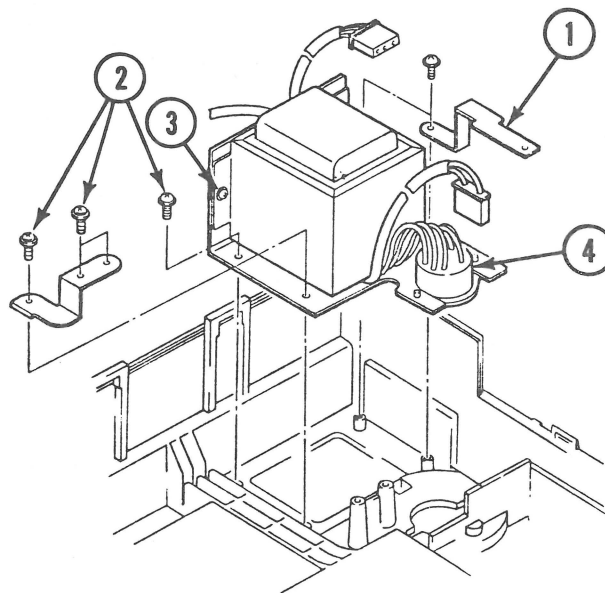

FIGURE 27
7. Remove the two screws that hold the ground bracket (Figure 27, #1) that connects the transformer base plate and the power supply.
8. Remove the four screws (Figure 27, #2) from the mounting plate that holds the transformer to the bottom case.
11. To remove the transformer from the base plate, unscrew the two mounting screws (Figure 27, #3) that hold the transformer to the mounting plate, and remove the transformer.
On universal transformers you must also remove the power selector switch (Figure 27, #4) by removing the two Phillips screws that hold it to the plate.
1. Secure the transformer to the mounting plate using the two screws (Figure 27, #3).
Note: On universal transformers, secure the power selector switch (Figure 27, #4) with the two Phillips screws.
2. Using four screws (Figure 27, #2), secure the transformer plate assembly to the bottom case.
3. Using the two screws, secure the ground bracket (Figure 27, #1) that connects the mounting plate to the power supply board.